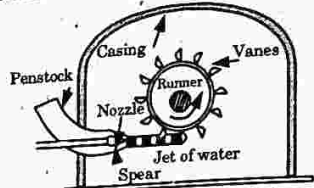

Fig. 5.3.2. Pelton turbine.
4. Fig. 5.3.2 shows the layout of a hydro-electric power plant in which the turbine is Pelton wheel.
- i. Fig. 5.3.2 shows the casing of a Pelton wheel turbine. The function of the casing is to prevent the splashing of the water and to discharge water to tail race.